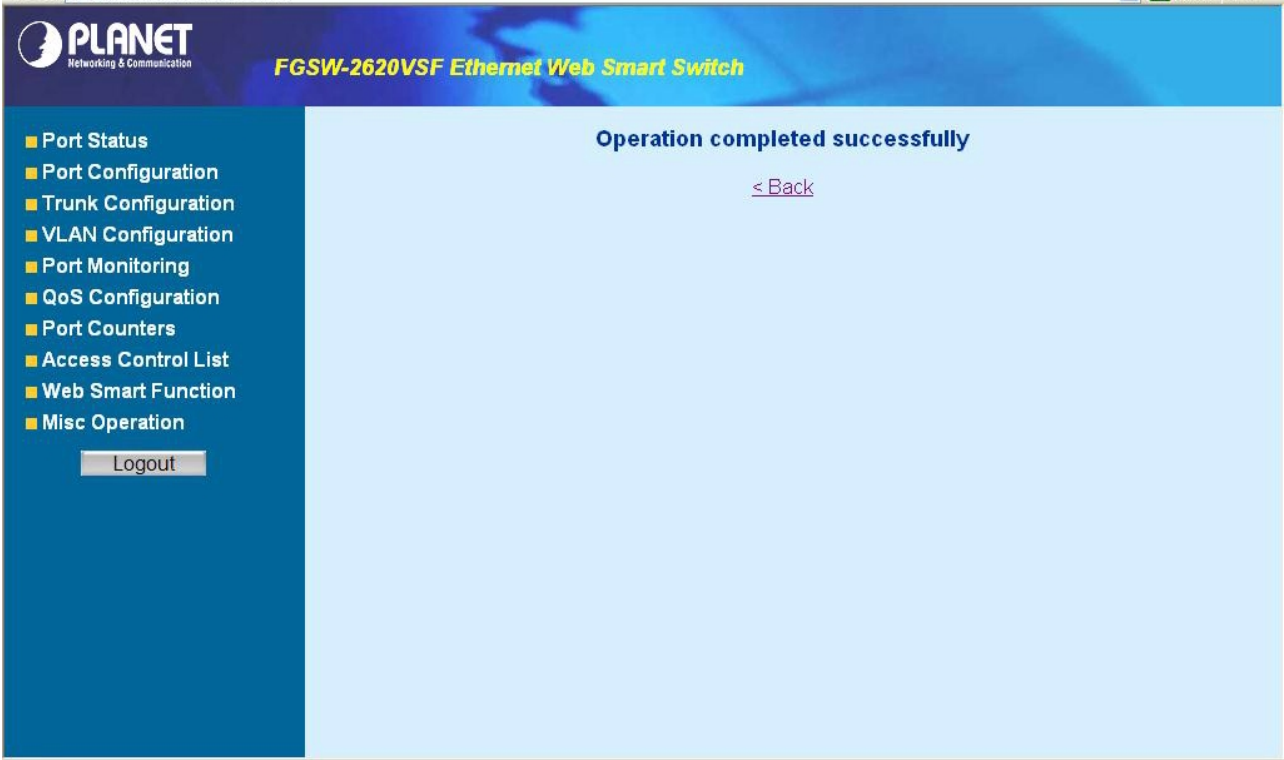

Figure 4-69 Web Smart Function Web Page screen
3. After setup completed, press “**Save**” to save current configuration, the screen in Figure 4-69 appears.